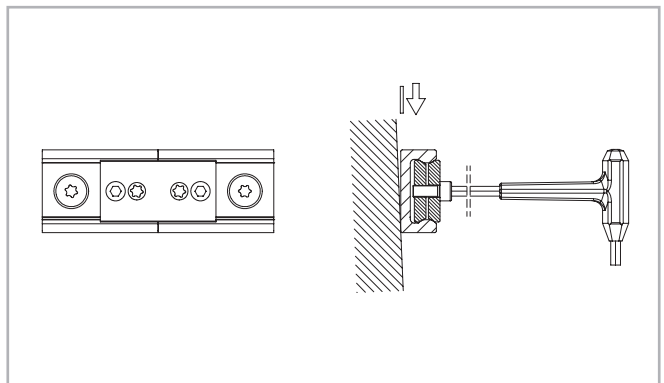

Fig. 81
- (3) Place the alignment fixture on the rail joint and tighten both set screws uniformly, until the raceways are aligned (see fig. 81).
- (4) After the previous step (3) it must be checked if both rail backs lie evenly on the mounting surface. If a gap has formed there, this must be shimmed.